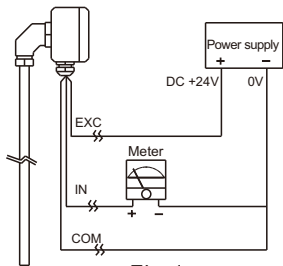
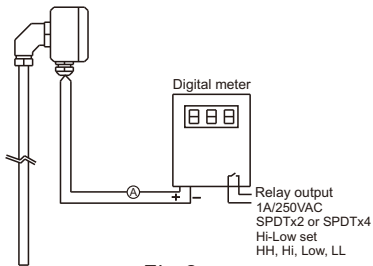

Fig.1
Fig.2
- 2) Please refer to Fig. 1 for the wiring diagram of analogue meter; Fig. 2 for digital meter.